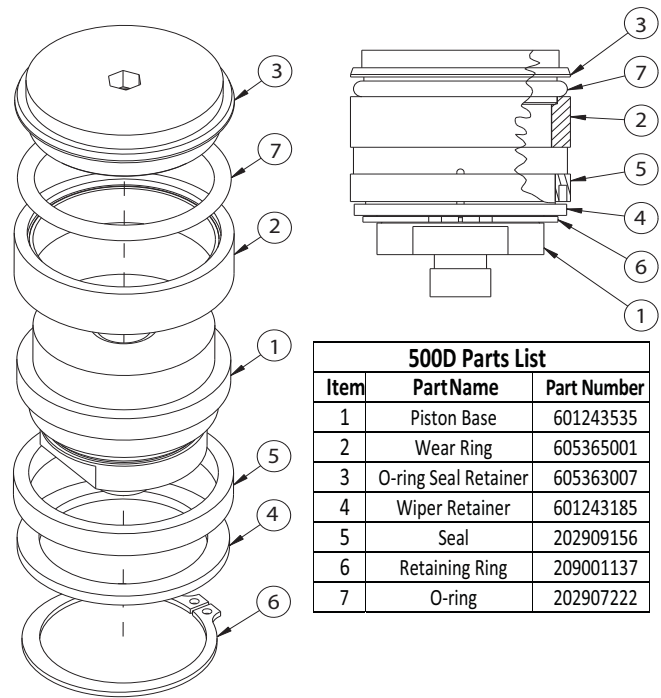

Figure 3: 500D Assembly with an O-ring
13. Put the O-ring on the new retainer as shown in Figure 3 or 4.